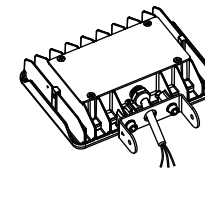

figure 2.2
- Step 3: Fix the lamp and bracket together with screws;(Watch out not to scratch the wire)(figure 2.2)